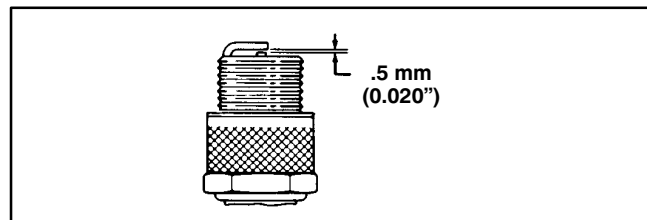

Figure 21
3. Set air gap at 0.5 mm (0.020") (Fig. 21). Install correctly gapped spark plug and gasket seal. Tighten plug firmly to 19 N·m (14 ft–lb).